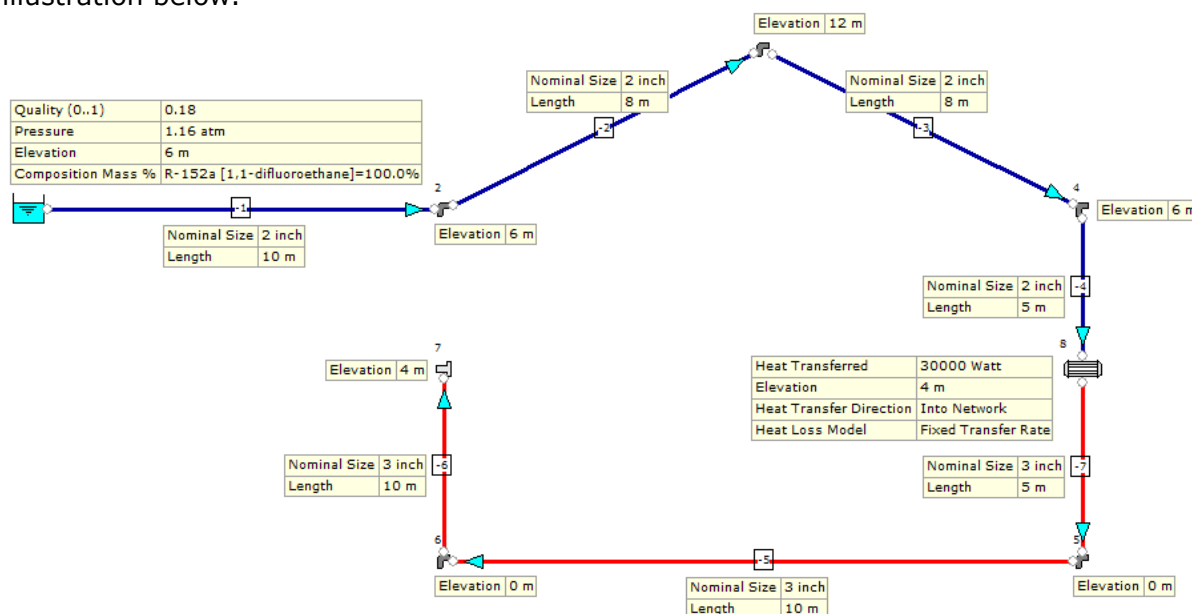

Figure 5.1.1: Changing Quality R152a Refrigerant System.
Let's build the model as shown in Figure 5.1.1 using schedule 40 steel pipework. The system contains a single shell and tube heat exchanger with 30kW of heat energy being added to the system. The system includes elevation changes which are noted on the illustration below.
Step 1: The first step is to lay out the model as per Figure 5.1.1. Place a *Known or Assigned Pressure* node (available from the *Boundaries* tab) on the flowsheet to represent the system inlet. Select *Steel Pipe or Duct* from the *Pipes* tab and develop the model connectivity as shown. Notice when you terminate the pipe at the end of the model, the software automatically fits an *Open Pipe* node which of course assumes the pipe outlet is at atmospheric pressure. If you had planned to set a design pressure in this location then, we would need to change this *Open Pipe* node to a *Known or Assigned Pressure* node. We are going to proceed with an *Open Pipe* node in this design case.